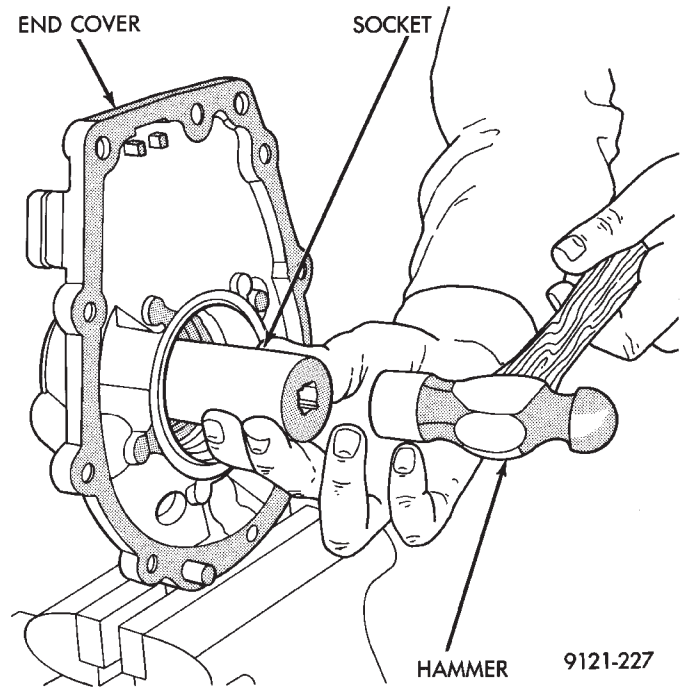

Fig. 4 Seal Installation
- (1) Clean and inspect seal area.
- (2) Install seal with a 1 1/16 inch socket (Fig. 4). The seal must be installed with the spring side of the seal facing end cover ball bearing. The seal will bottom against a machined shoulder in the cover.
- (3) Clean sealing surfaces of the end cover and P.T.U. case. Apply a bead of Mopar® Gasket Maker, Loctite Gasket Eliminator No. 518 or equivalent.